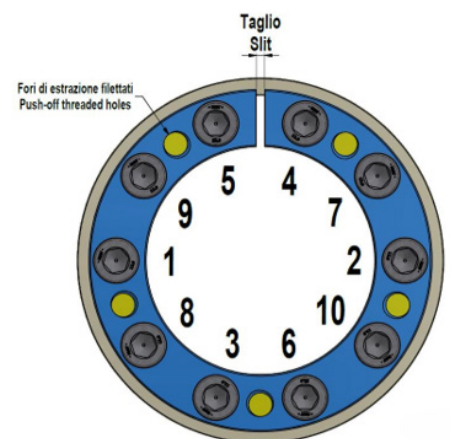

Fig. 3
4. Tighten the screws by hand in a crosswise pattern, starting with a screw located at 90° approx. respect to slit (fig. 3), until fitting clearances with shaft and hub bore are bridged and connected components are slightly locked, while making sure that hub is aligned as required using a dial indicator. **Better centering of hub from the beginning of installation is essential for better centering when installation is completed.**
5. Use a torque wrench set approx. 5% higher than specified tightening torque (Ma), or reduced within admissible value. **Progressively tighten the screws in a crosswise pattern (fig. 3), using approx. 1/4 turns for several passes** until 1/4 turns can no longer be achieved.